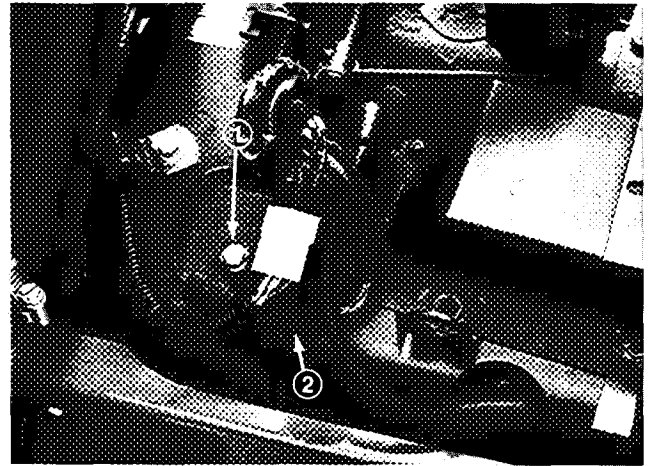

Figure 32
5. Remove self-tapping screw securing voltage regulator to left engine housing and remove regulator (Fig. 32).